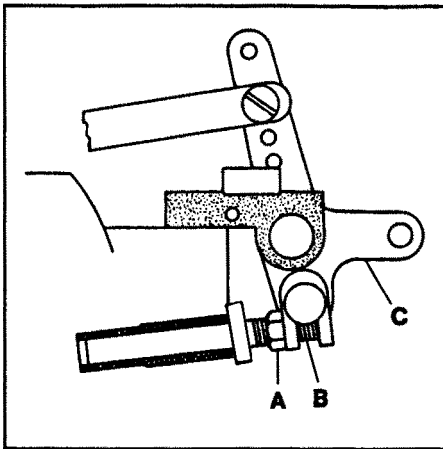
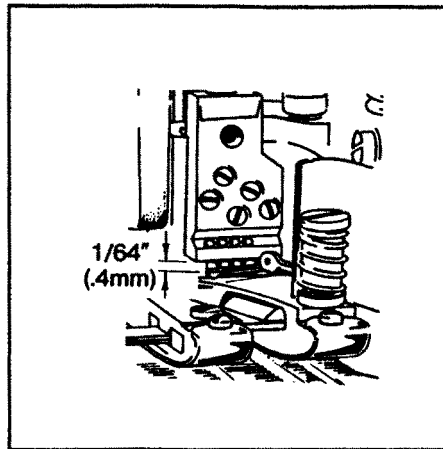

FIG. 24
FIG. 25
The presser foot lifter stop plunger must be set so the cover thread hook will not hit the bottom of the needle head as the presser foot is being lifted. Position the needle bar to its lowest point of travel. Loosen nut (A, Fig. 24) and turn plunger (B) clockwise until it strikes the crankshaft counterweight. While applying pressure to lifter (C) to lift the foot, back out of the plunger until the distance between the hook and the underside of the needle head is $1/64$ " (0.4mm) (see Fig. 25). Tighten nut (A, Fig. 24).